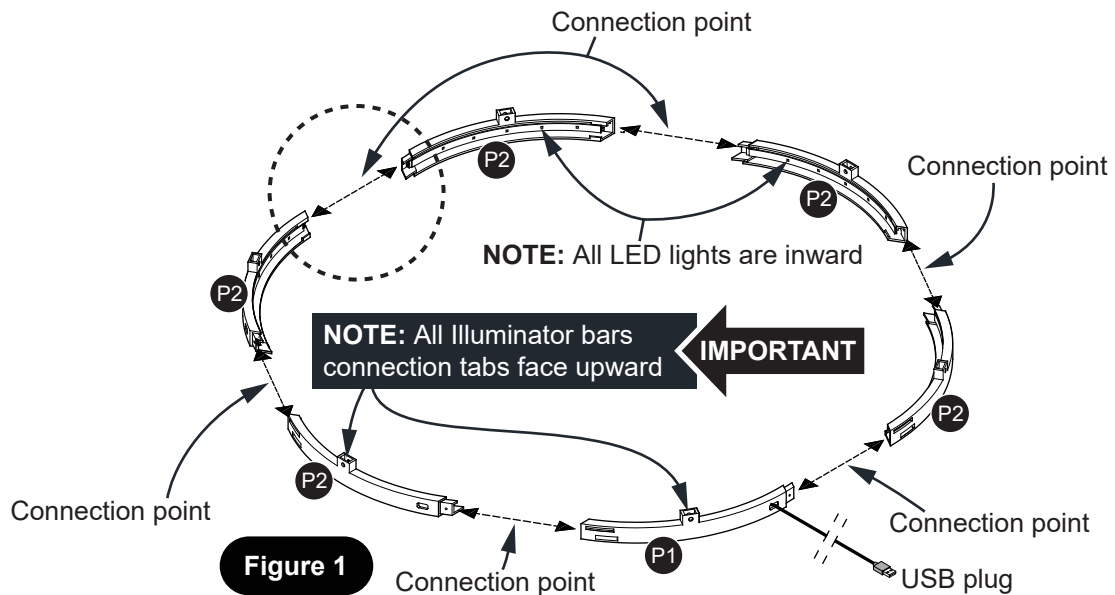

Figure 1
1. Please study **Figure 1** and **Figure 1A** to start.